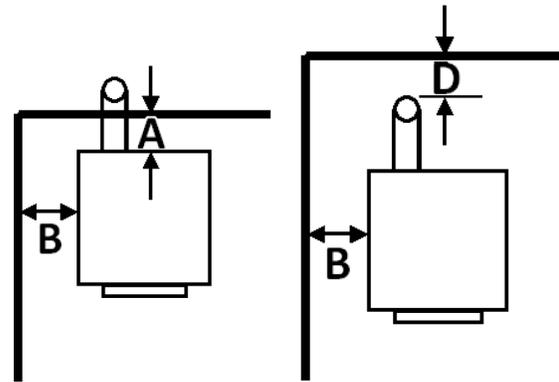

Figure 1
1. Position stove, adhering to clearances shown in Figures 1 & 2.